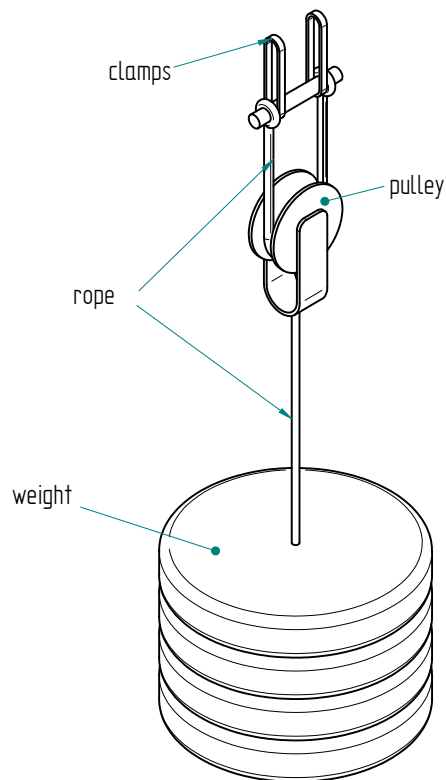

Figure 1.31: **tensionator** and its elements
**Drawing** The figure 1.31, page 65, shows the drawing of the **tensionator** with all its elements.